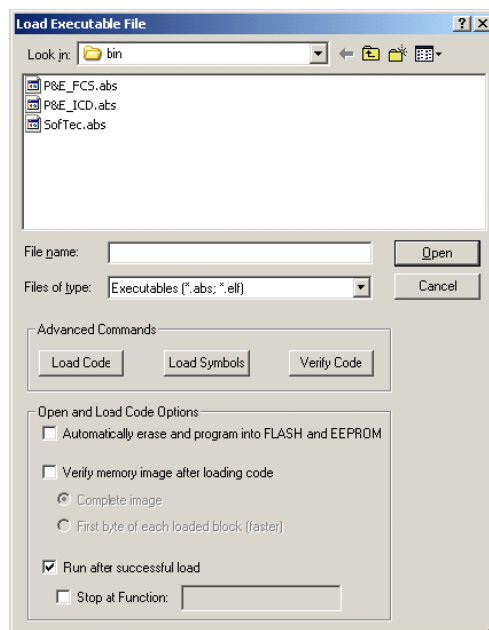

Figure 13. load executable file dialog box
- The "Preference" dialog box opens as shown in Figure 13